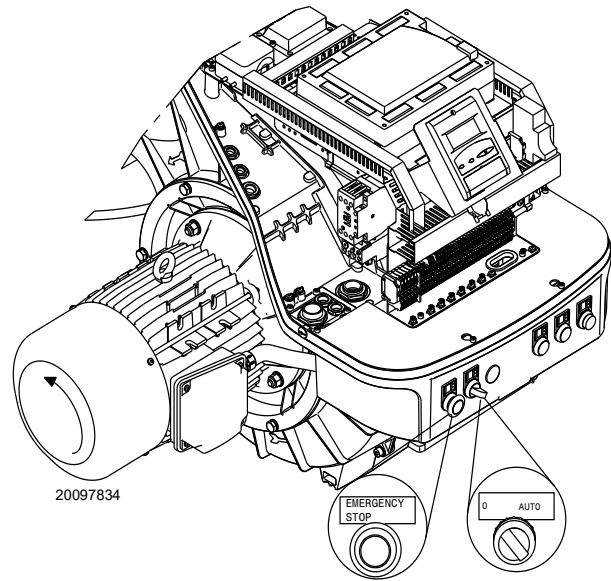

Fig. 24
Close the thermostats/pressure switches. Turn the switch of Fig. 24 to position “**AUTO**”.
Make sure that the lamps or testers connected to the solenoids, or indicator lights on the solenoids themselves, show that no voltage is present. If voltage is present, stop the burner **immediately** and check the electrical wiring. When the burner starts, check the direction of the motor rotation, as indicated in Fig. 24.
- place the switch of Fig. 24 in position “**0**” and wait for the flame control to carry out the switch-off phase;
- using the switch "0-AUTO" of Fig. 24 on page 30.